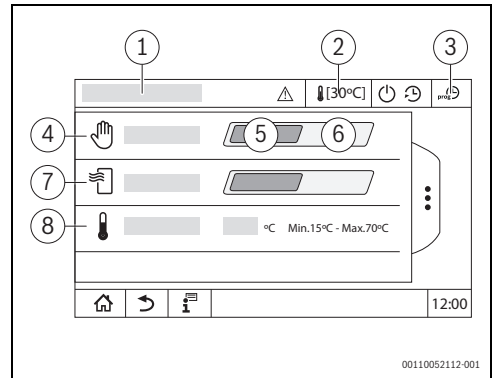

Fig. 2 Advanced functions, Manual operation
- Tap **Off** (→ Fig. 2, [5], page 5).